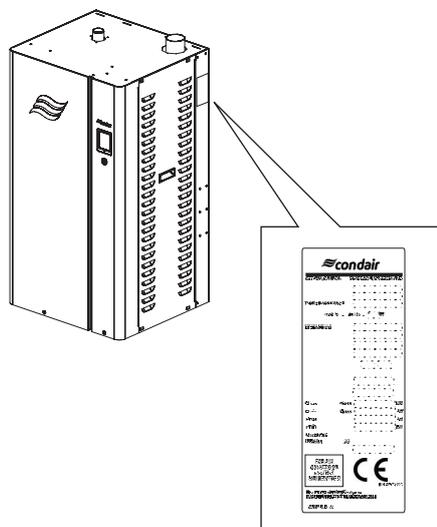
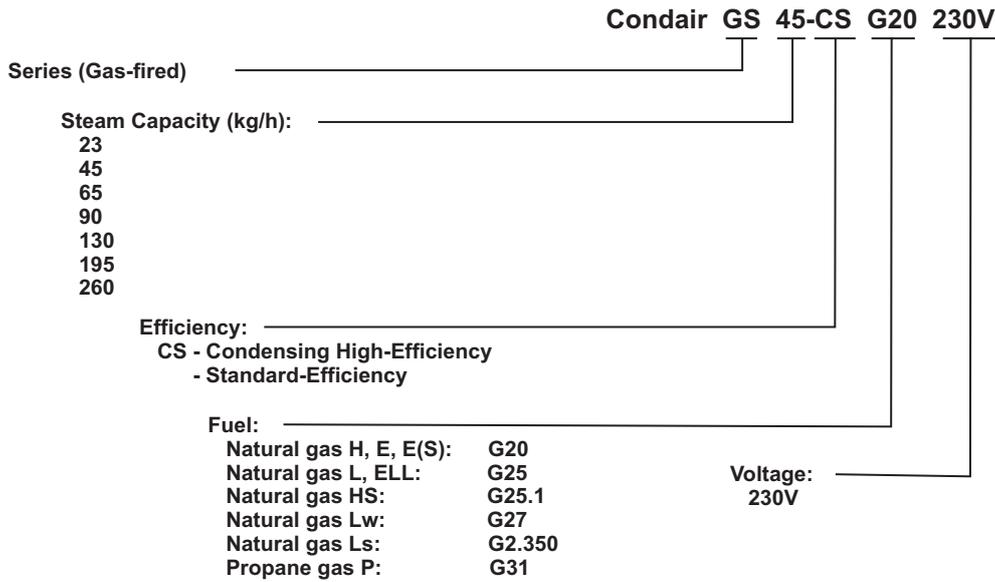

Figure 3: Condair GS Series Humidifier Specification Label
Figure 4: Model Number Breakdown (Example)
- Verify the model type on the specification label to ensure that it is suitable for your installation. Refer to Figure 3 on page 8.
The specification label on the right side of the Condair GS humidifier shows its model number, serial number and ratings – refer to Figure 3. The breakdown of the model number is shown in Figure 4.